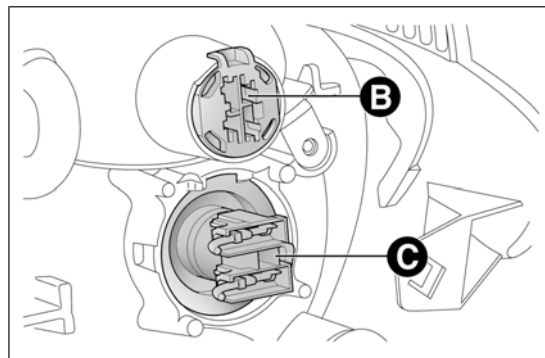

fig. 132
- remove bulb holder B fig. 132, remove the bulb and replace it;
- remove bulb holder C fig. 132, remove the bulb and replace it;